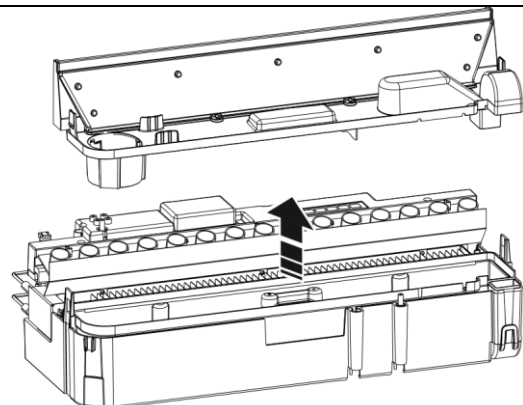

Fig 15
6. Gently lift up the sump (Fig 15), taking care to keep it level so as not to spill any water. Sit the sump in the sink.